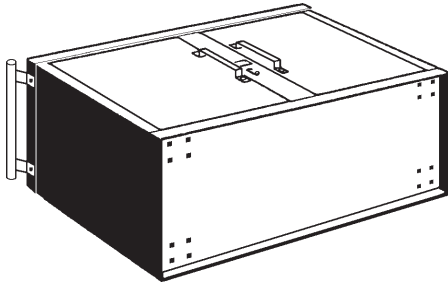
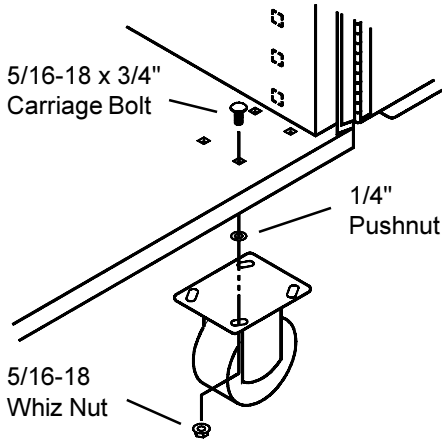

Figure 2. Caster Mounting Holes
Figure 3. Caster Mounting
2. Close the doors and lay the cabinet on it's back, onto the flattened shipping carton to prevent scratches (Figure 2.). Mount the Swivel Casters on the end you mounted the Handle. Insert a Carriage bolt into a mounting hole, and push a Pushnut onto the bolt to hold it in place (Figure 3). Repeat this for the other three mounting bolts. Place the Caster over the bolts, then fasten with Whiz Nuts. Repeat this for the remaining Casters.